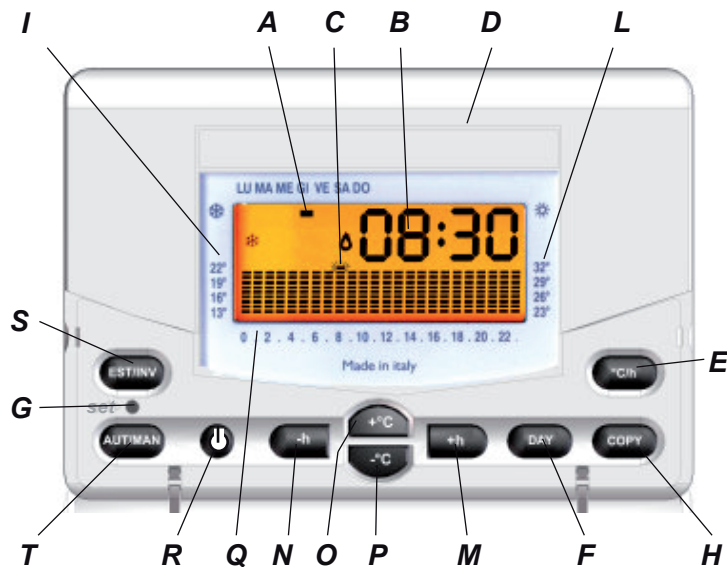

Fig.14
The top-left segment (A in Fig. 14), below the printed text, indicates the date of the programme.
The programmed temperature (B in Fig. 14) is shown in the top right-hand corner during the programming phase, and is identified by the blinking date and “C” symbol indicating the temperature in °C.
Pressing the °C/h button (Fig.14) during normal operation displays the date and ambient temperature in alternation.
Once powered, **Easy Radio** shows a standard diagram for use and the clock starts at 00.00 on Monday (MON). To edit the standard programme, select the required day by pressing the **DAY** button (Fig. 14) and change the daily graph using the four central buttons arranged in a cross.
The +h and -h buttons (Fig. 14) move the cursor horizontally along the TIME axis and the +°C and -°C buttons (Fig.14) edit the temperature.
- Press the **DAY** button (F in Fig. 14) to move to the next day and view the saved programme (if one is not available, the standard graph is displayed) which you can edit as described previously.
After programming the entire week, you need to update the time and date by pressing the SET button with a pointed tool. (Fig.14).
The **Easy Radio** is now ready for normal operation, and the flame symbol will appear on the display (Fig. 14) whenever a load (heating or air-conditioning) is activated.
Press the AUT/MAN (Fig. 14) to select manual mode. The graph (still saved in the memory) is replaced by the "hand" symbol (Fig. 14).
The **Easy Radio** now acts as a simple ambient thermostat and you can set the temperature with the **+°C** and **-°C** buttons (O, P in Fig.14). The set temperature, shown on the display, is maintained until you exit manual mode by pressing the AUT/MAN again (to enter automatic mode).
Press the  button (R in Fig.14) for two seconds to turn off the chronothermostat. The **Easy Radio** deactivates the functions of the set programmes (still saved in the memory) and displays, in alternation, the word OFF and the current time or temperature reading.
If you need to cancel a programme you have entered (e.g. after a programming test), press the **AUT/MAN** and **COPY** buttons (T and H in Fig. 14) at the same time for about two seconds; **Easy Radio** restarts initialisation as described previously.